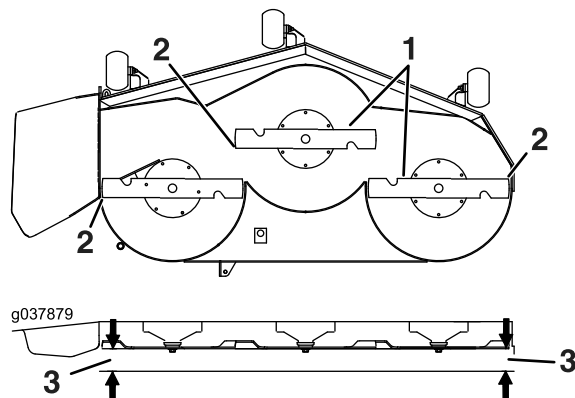

Figure 81
6. Measure between the blade tip and the flat surface (Figure 81). If both measurements are not within 5 mm (3/16 inch), adjust the leveling; continue with this procedure.
14. Carefully rotate the blades side to side (Figure 81).